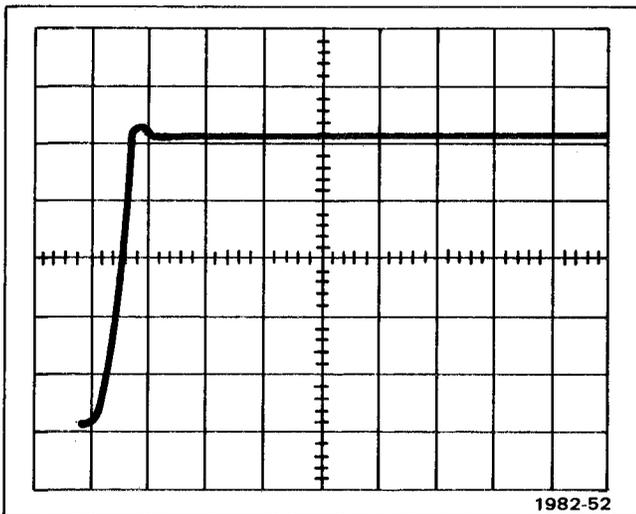

Fig. 3-7. SWEEP GATE OUT display.
e. CHECK—Display is leading edge of squarewave (see Fig. 3-7).